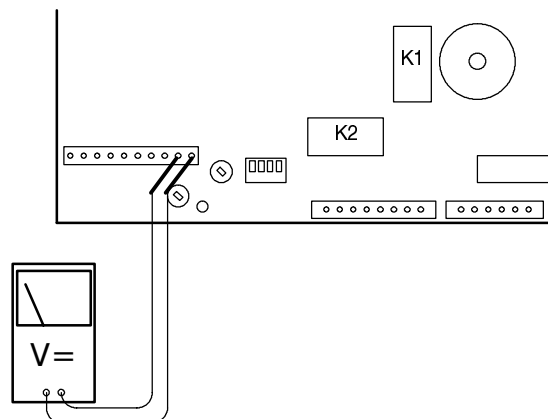

fig. 24
- 2 Connect a meter, set for direct voltage measurement, to the points indicated in fig. 24.